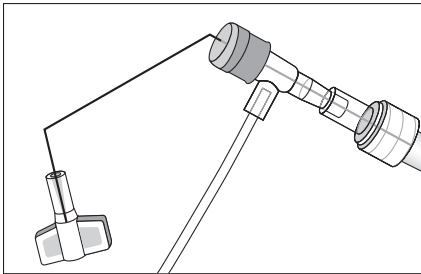

Figure 6
- If provided with a braided placement wire that includes a handle, kink proximal end of placement wire at side-port connector to minimize risk of placement wire exiting distal tip of catheter during insertion (refer to Figure 6).